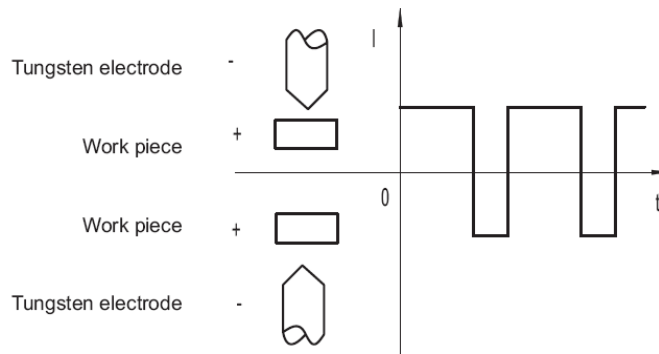

Fig. 5-3-10: Standard square wave
**Standard square wave:** Responsive arc with fast zero crosses and reduced peak current. Stable arc with good puddle control and fast travel speed, Minimizes tungsten superheating. (Fig. 5-3-10)